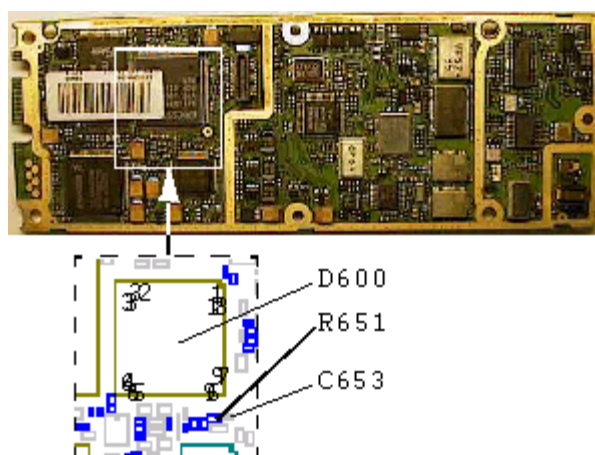

Fig. 9.2
Check the soldering at D600 pin 91 (fig. 9.2).
* If the resistance is incorrect, replace R651 (class A, fig. 9.2). If that doesn't help there's a foil damage and the phone is to be discarded.
- If it's lower, replace C653 (class A, fig. 9.2).
- * If the voltage is missing, check the soldering at D600 pin 92 (fig. 9.2).
If the fault remains, replace D600 (class B, fig 9.2).
Check the soldering at D600 pin 94 (fig 9.2).
- * If it's correct, replace D600 (class B, fig 9.2).
Check the soldering at D600 pin 93 (fig 9.2).
* If it's correct, replace D600 (class B, fig 9.2).